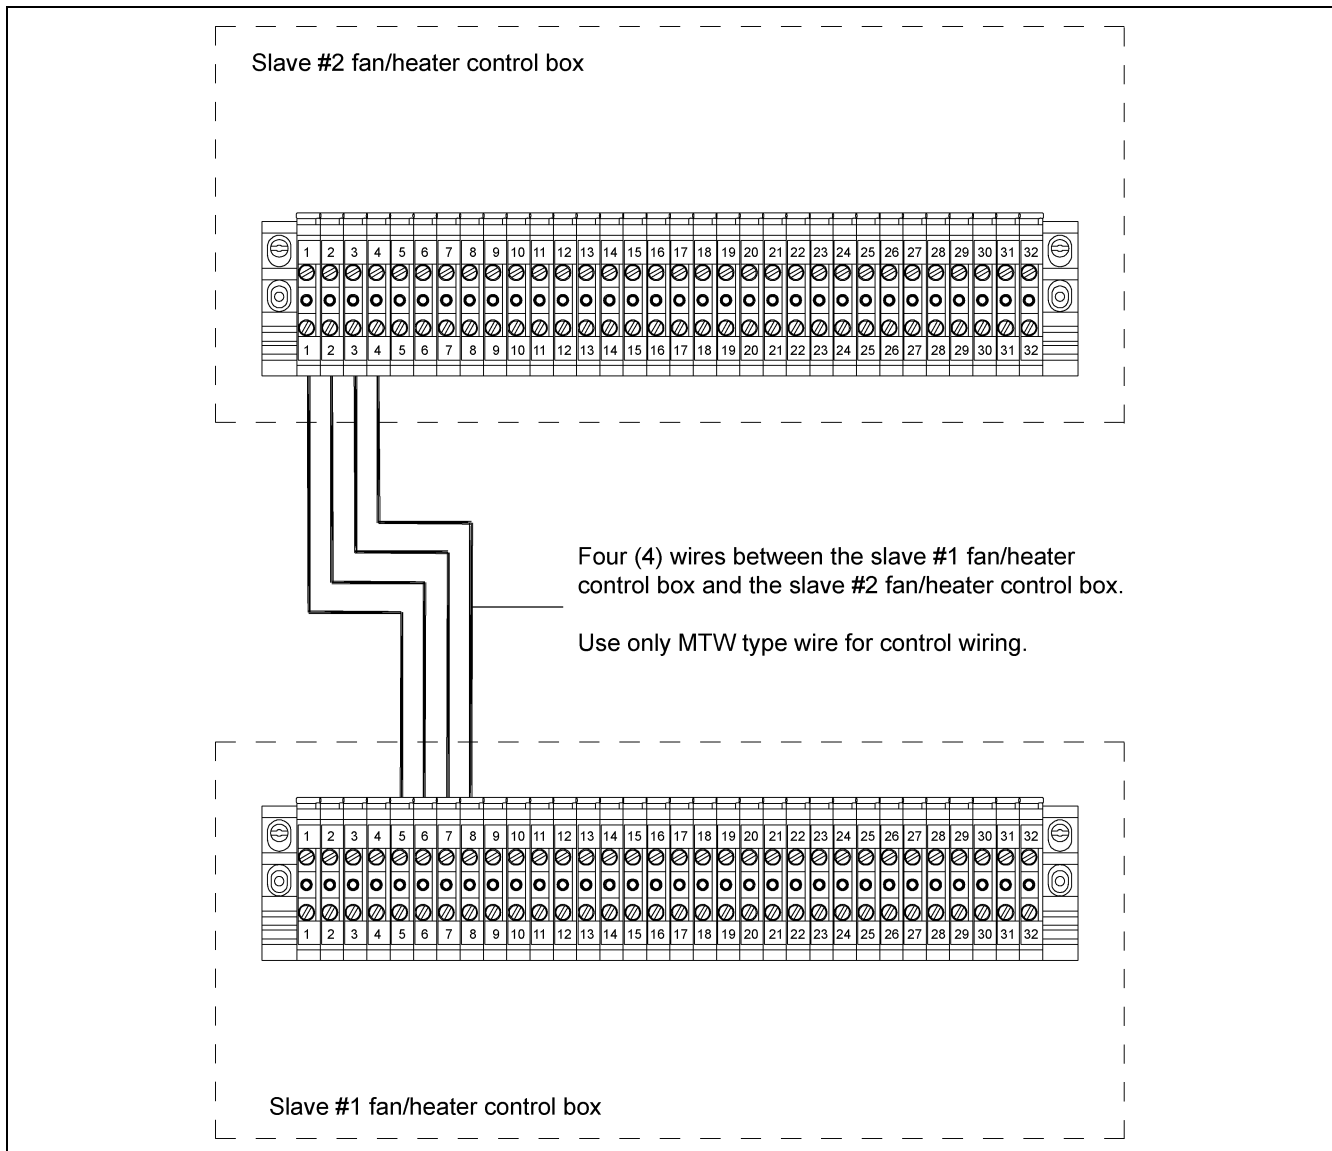

Figure 4H *Wiring for a Second Slave Fan/heater Unit to Another Slave Fan/Heater Unit*
1. Run four (4) 16 gauge MTW/THHN type wires from the first slave fan/heater unit to the second slave fan/heater unit.
2. Connect the wires as shown in Figure 4H.